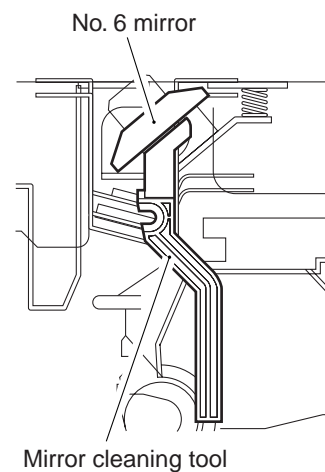

Figure 3-412
- 2) Put the mirror cleaning tool against the mirror as shown in Figure 3-412, and clean the lens by sliding it back and forth.